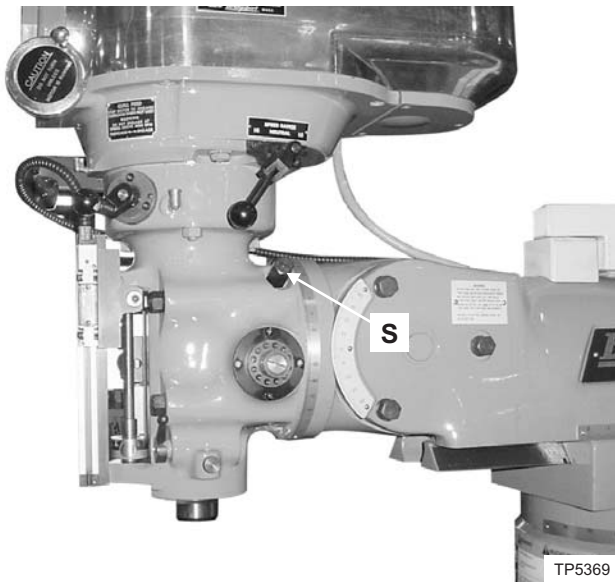

Figure 2.21 - Positioning the Head (Right Side View)
4. Rotate swivel bolt "S", Figure 2.21, to adjust the X axis tram as needed.